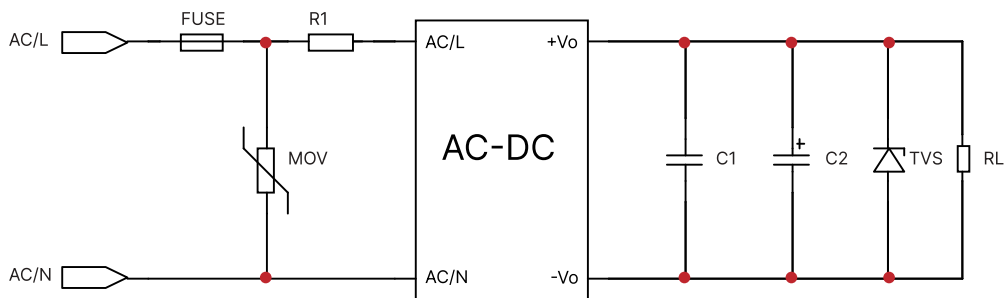
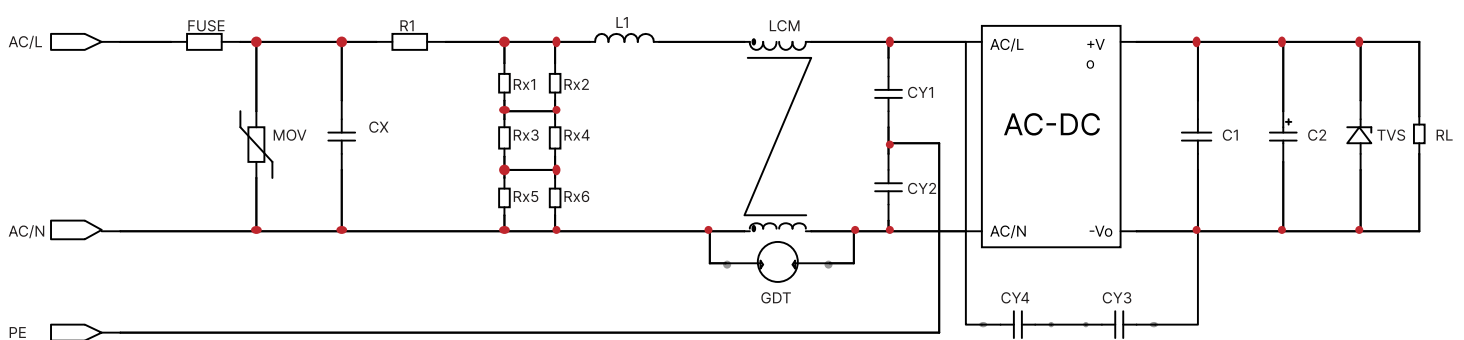

Figure 2: EMC application circuit with higher requirements
Figure 3 : category I device recommendation circuit
Level 3, ±4KV criteria A(consider figure 2 or figure 3
Level 3, ±2KV/L-L criteria A(consider figure 2 or figure 3
6. When the output terminal of the product needs to be connected to PE through a Y capacitor, or close to the metal frame, please refer to the Fig. 3 for recommended circuit.